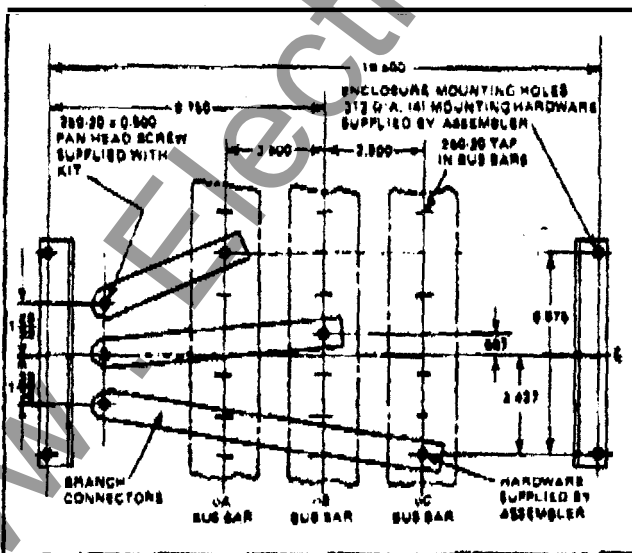

Fig. 1
1. Position the main or branch connectors as shown in either Figure 1 or Figure 2.